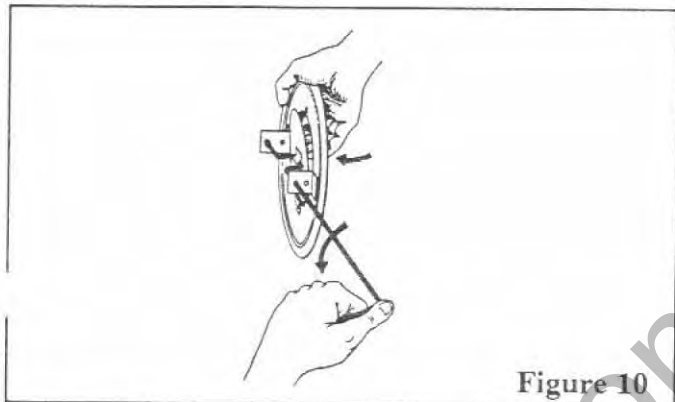

Figure 10
STEP 3: Grasp the outside air gate as shown in Figure 10. To thread it properly into the case, the handle must be turned beyond its normal operating position. Push the upper edge of the blade inward past the stop and rotate the handle until it points straight down.